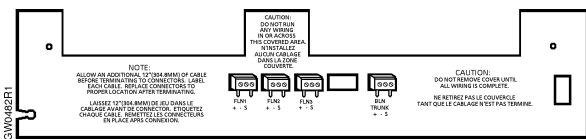

Figure 2. Temporary Cover.
2. Remove the temporary connector cover that is wrapped around the board bracket (Figure 2).